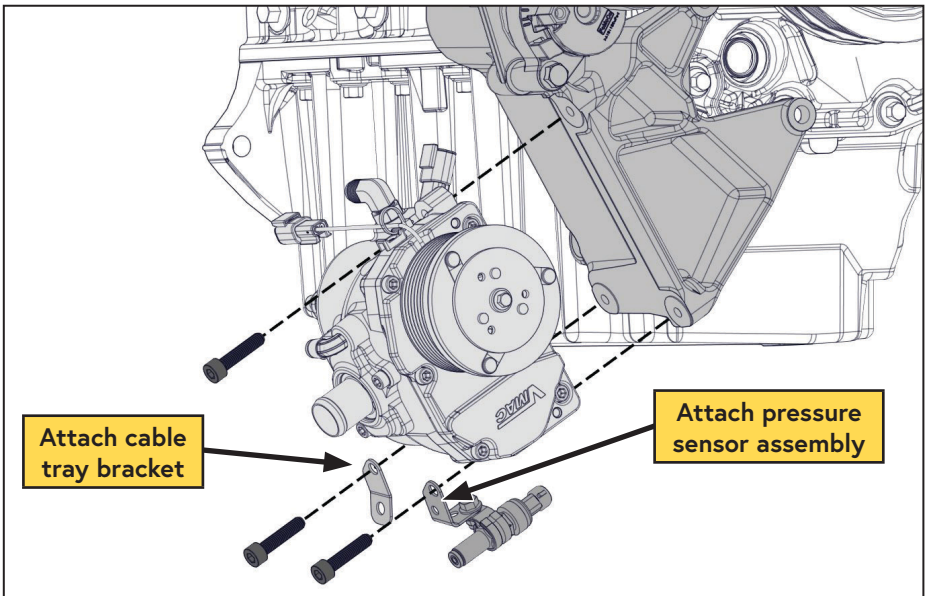

Figure 21 — Mount compressor
- Using the (×3) supplied M8×1.25×35 mm bolts, mount the compressor assembly, shorter cable tray bracket, and the pressure sensor assembly (in the orientation shown) onto the main bracket (Figure 21).